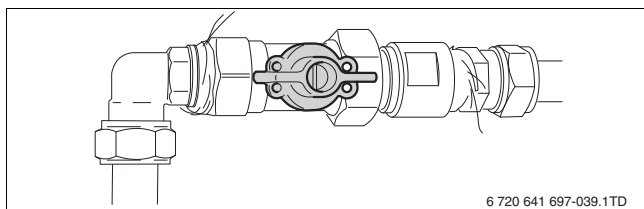

Fig. 24 Gas shut-off valve open
- ▶ Open the gas shut-off valve (→ fig. 24) and check again for gas leaks.